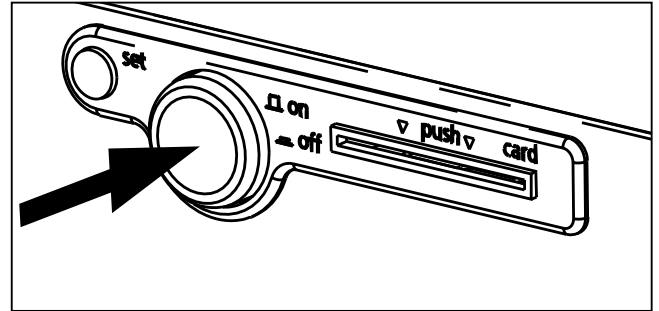

Fig. 19
► Switch on appliance by pressing the main switch on the front of the appliance (see Fig. 19 on page 27).
- ▶ Switching off: press the main switch so that it retracts back into the appliance (Fig. 19).